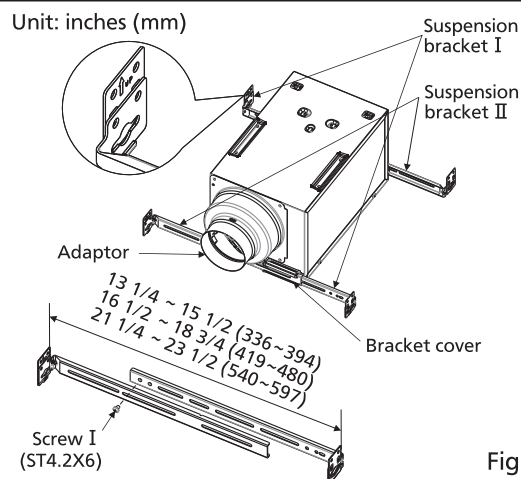

Fig. 1
1. Insert the suspension brackets into the fan body from each side of the bracket cover. (Fig. 1)
2. Fix suspension brackets I and II with screws I (ST4.2X6), but remember not to tighten the screws up yet. (Except that the spacing is 12 inches between joists.) (Fig. 1)